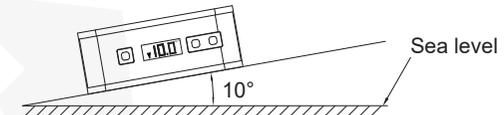

Fig.6
- The instrument is at level mode when "ABS" is on the display. Put the instrument on the surface to be measured. The reading shows the level of this surface. The "▲" and "▼" shows the directions (fig. 6).